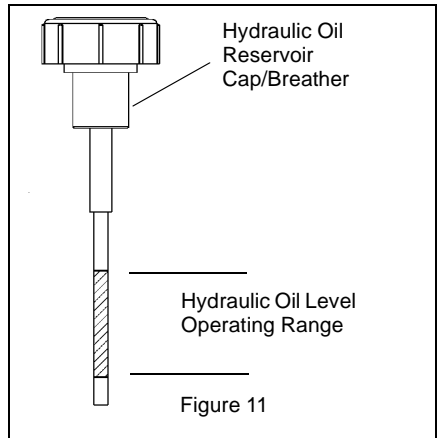

Figure 11
8. Remove cap/breather and check oil level on dipstick. Oil should be within the operating range. See figure 11.